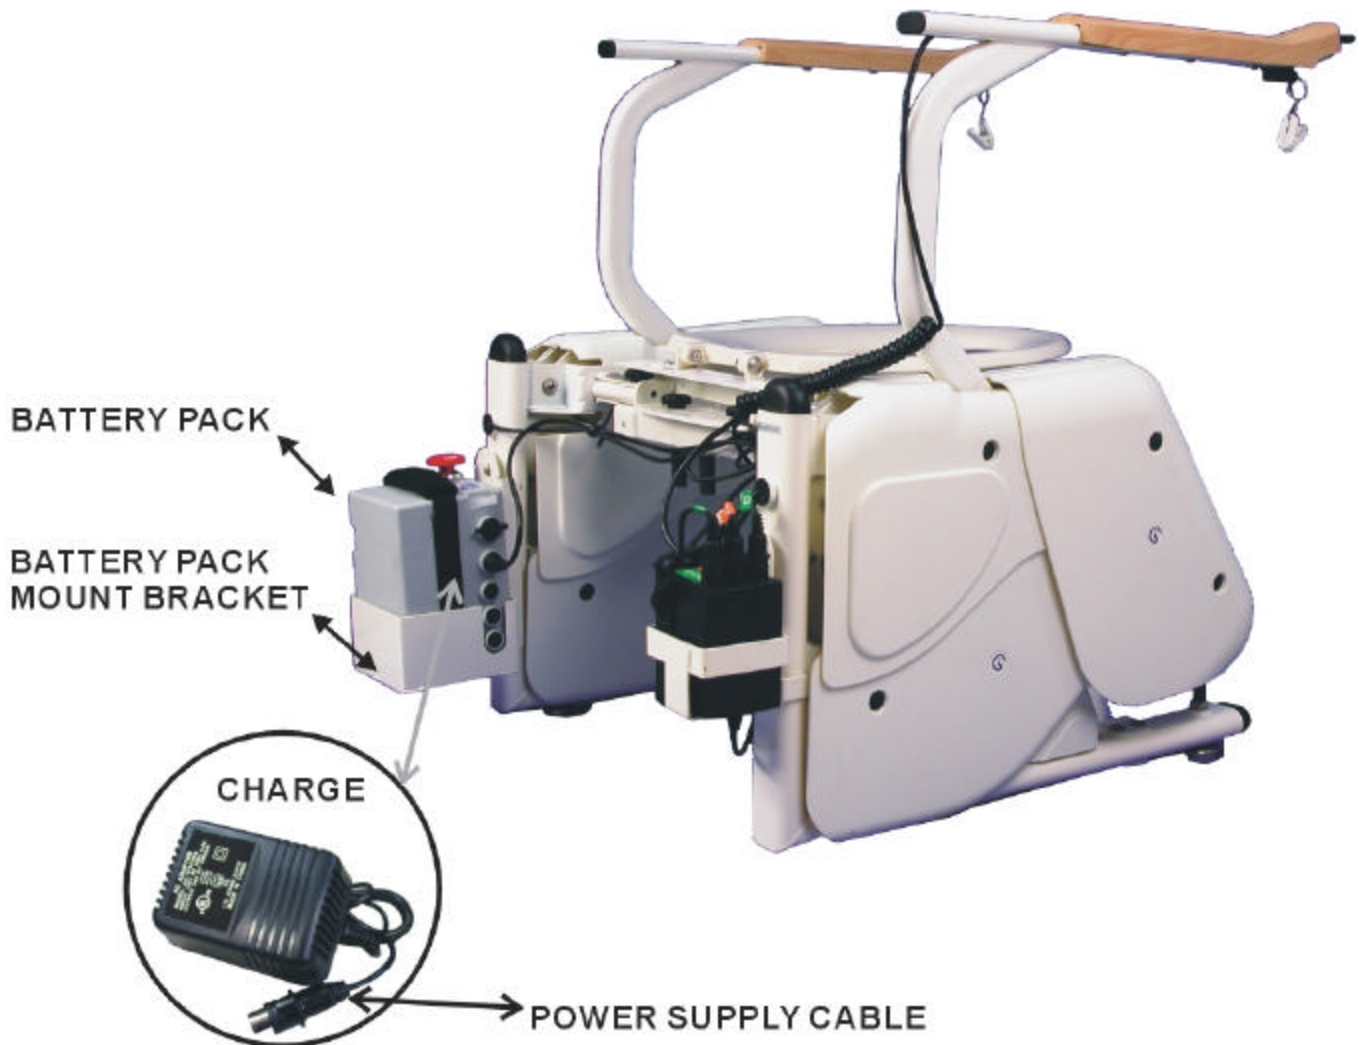

Figure A-6. Battery Pack Mount Bracket
Step 7a. For the optional battery pack, hang the battery pack mount bracket on the back of the lift frame mount stud. Place the battery pack inside the mount bracket as shown in Figure A-6. Connect the power cable from the control box to the battery pack.